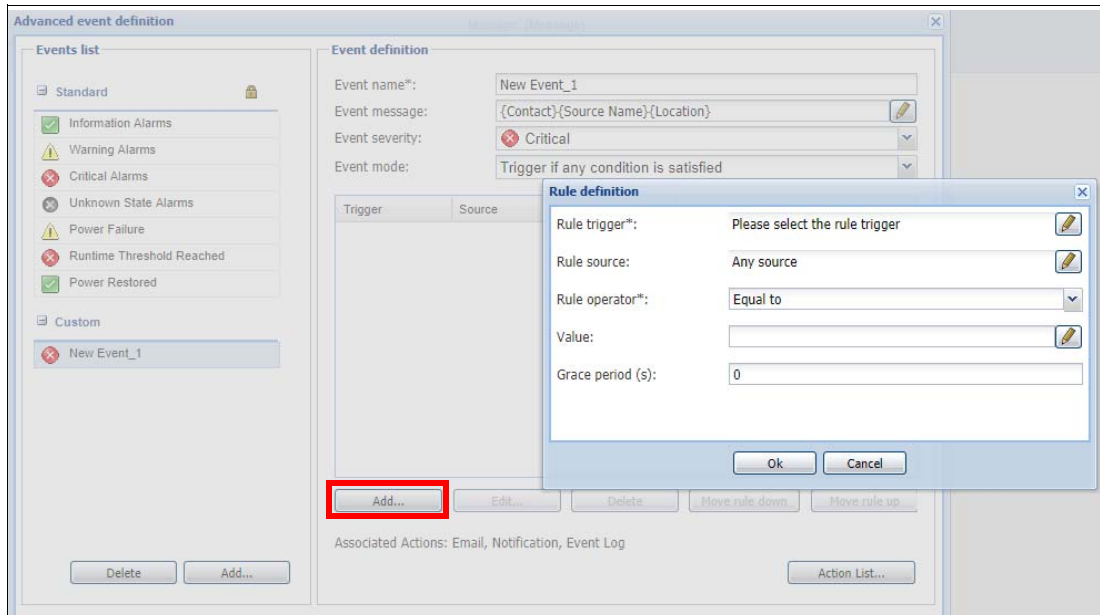

Figure 40 Add new event definition (rule trigger)
5. The following screen is displayed as shown in Figure 40.
8. For the EMP temperature, select the Rule trigger on the environmental object **Temperature**. Click **Add** in Figure 40 again, enter the appropriate fields, then click **Ok**.